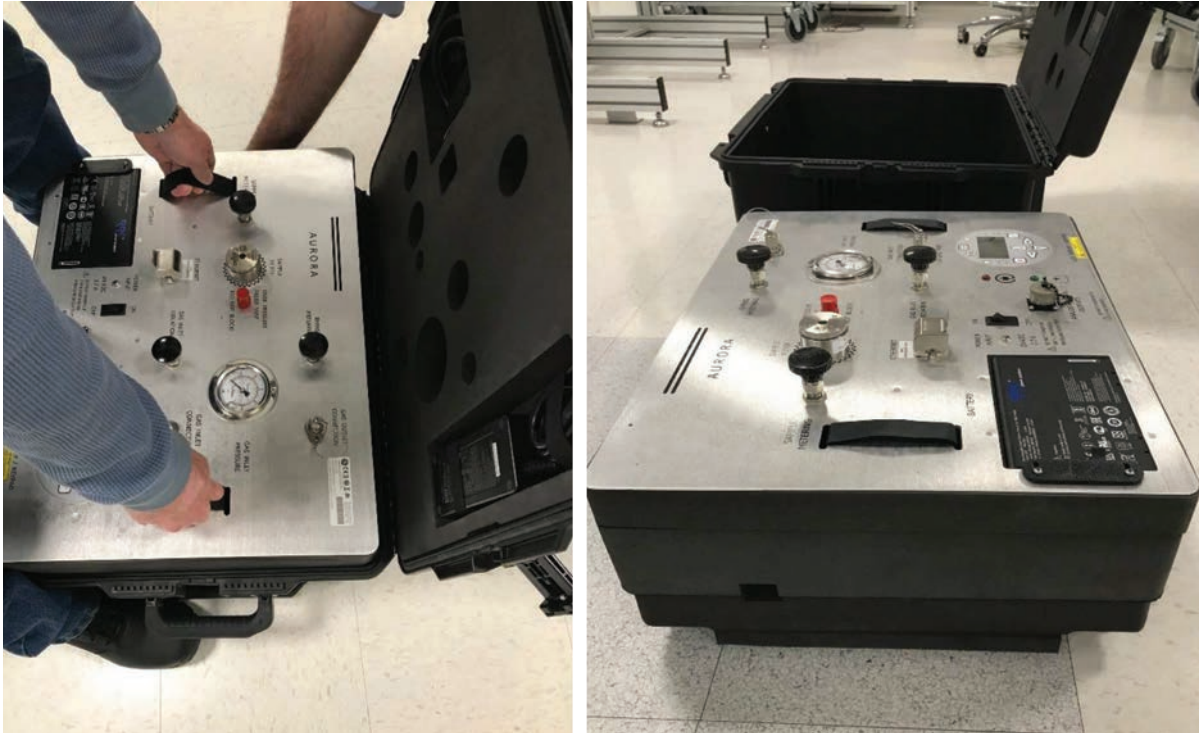

Figure 52: Extraction of inner foam assembly from TransPort Pelican case for access to absorption cell end mirror
- Using the top panel Velcro handles, firmly lift the foam block assembly housing the absorption cell completely out of the Aurora TransPort Pelican case. As shown in Figure 52 below, this process may require holding down the Pelican case from the side. Place the extracted foam assembly on a flat surface with the slotted opening in the side of the foam layers clearly visible on the battery side of the front panel.